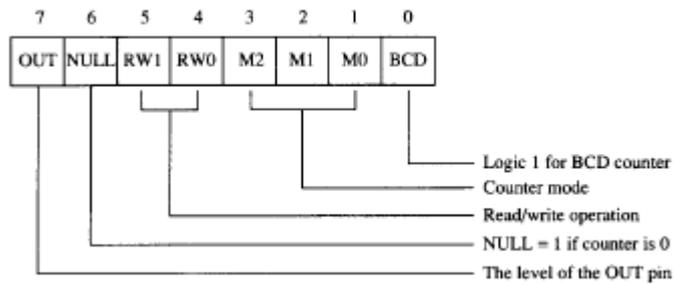

Figure 11-39: The 8254-2 status register
- Status register shows whether the counter is at its null state(0), & how the counter is programmed (Figure 11-39).